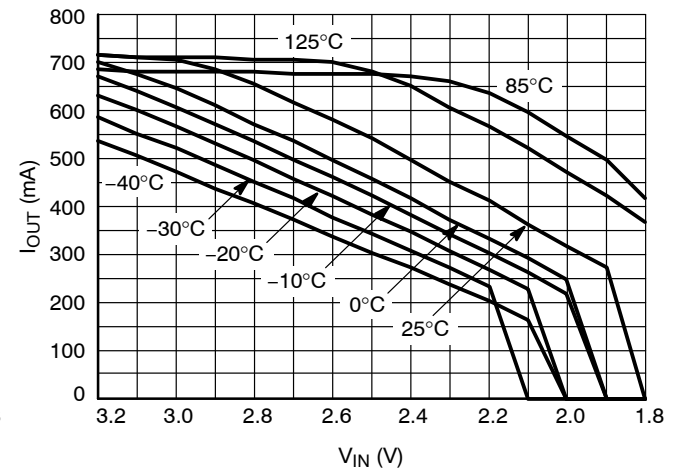

Figure 22. Output Current Capability for the 1.5 V Version
28. For output current capability for $T_A < 0^{\circ}\text{C}$, please refer to Figure 22.